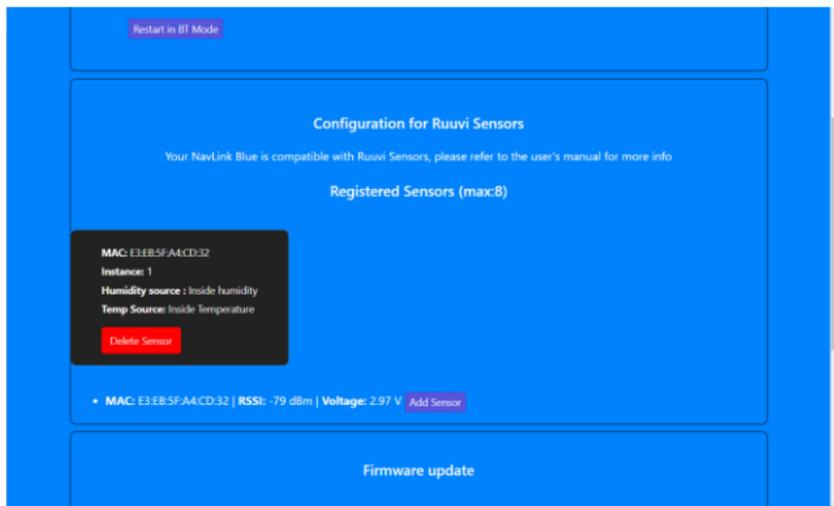

Figure 4
- Once all of the options are correctly set for the sensor, click the “Save” button and the NAVLink Blue will show a pop-up that the sensor has been successfully registered. Then it will return to the SETTINGS page and you will see the registered sensor (Fig 4).